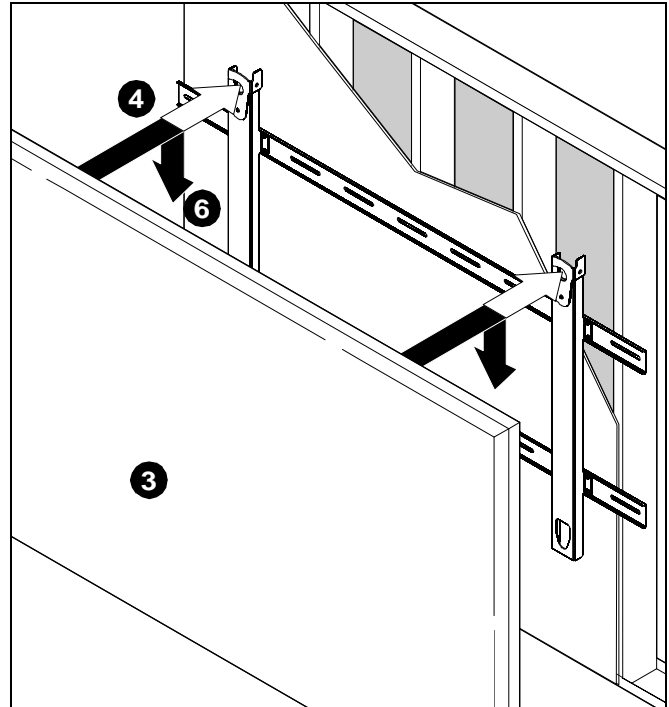

Figure 7
4. Align mounting buttons on display with teardrop mounting holes in mount. (See Figure 7)
5. Move display forward until recessed area of mounting buttons is positioned over lower area of teardrop mounting holes. (See Figure 7)
6. Lower display until recessed area of mounting buttons is seated in lower area of teardrop mounting holes. (See Figure 7)